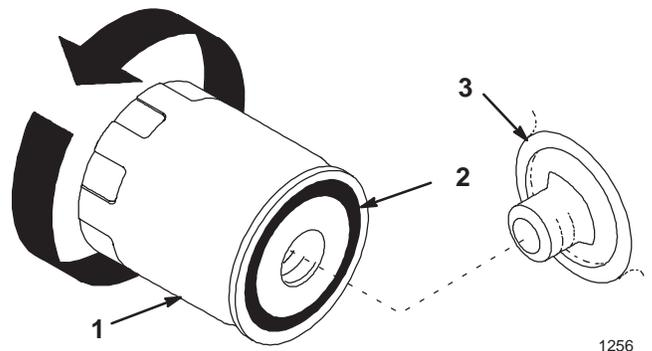

Figure 19
- Apply a thin coat of new oil to the rubber gasket on the replacement filter (Fig. 19).
- Install the replacement oil filter to the filter adapter. Turn the oil filter clockwise until the rubber gasket contacts the filter adapter, then tighten the filter an additional 1/2 turn (Fig. 19).